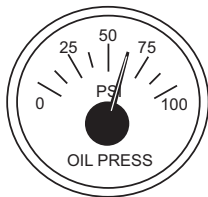

Figure 51. Oil Pressure Gauge
9. The **engine oil pressure gauge** (Figure 51) will indicate the oil pressure of the engine. Under normal operating conditions the oil pressure should be approximately 50 psi (345 kPa). When starting the generator the oil pressure may read a little higher, but after the engine warms up the oil pressure should return to the correct pressure range.